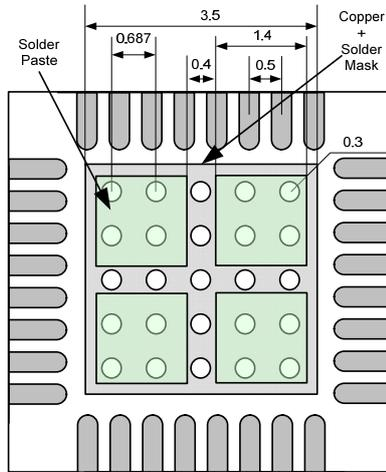

Figure 10: PD70201ILQ Recommended PCB Layout for Thermal Pad Array (mm)
- For the layout, use the pattern land shown in Figure 10. Vias under the device are used for heat transfer between layers.
For PD70101A/PD70201 use the pattern land shown in Figure 10 for the layout. Vias under the device are used for heat transfer between layers. Use 25 mil Vias for effective heat transfer between layers. As a first priority use external layers for the heat dissipation; If can be done using the internal layers as well for good heat transfer.